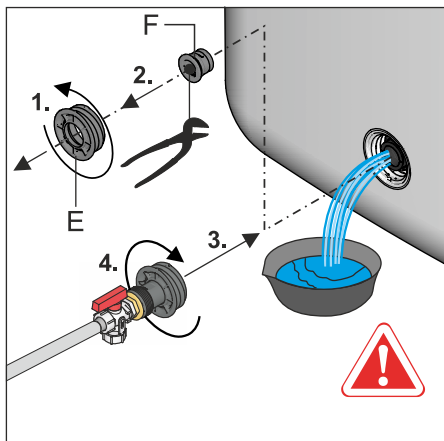

Fig. 9-4 Screwing the combined filling and draining filling connection into the filling and draining connection
- Unscrew the threaded piece on the filling and draining connection (Fig. 9-4, item E), remove the sealing plug (Fig. 9-4, item F) and immediately screw in the pre-installed threaded insert with **combined filling and draining filling connection** into the filling and draining connection (Fig. 9-4) again.